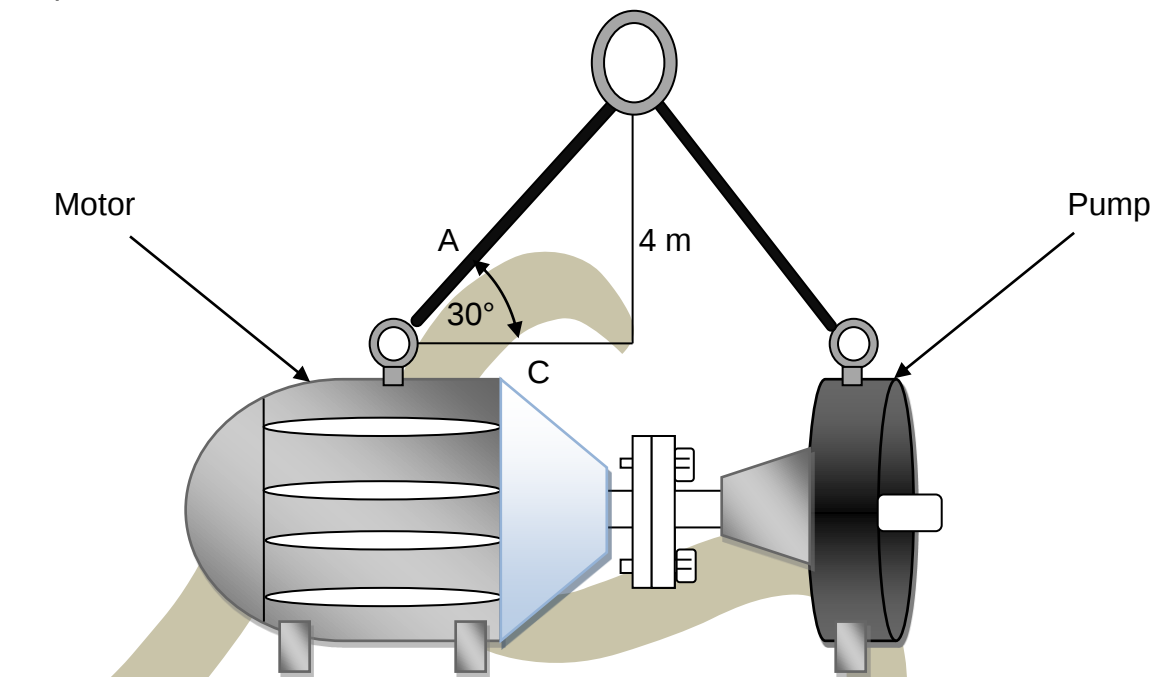

FIGURE 5
- 7.2 FIGURE 5 below shows a motor and a pump that must be lifted up to be placed onto a base.